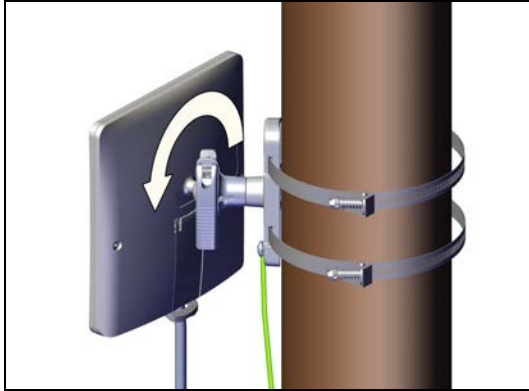

Figure 2-53: Tighten arm on mount: SU PRO/AIR radio unit
4. Once alignment is complete, tighten the arm on the mounting kit (see Figure 2-53 for the SU PRO/AIR, see Figure 2-33 for an external antenna).